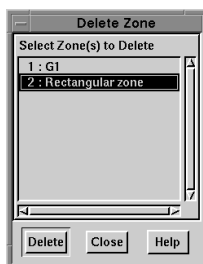

Figure 24-20. The Delete Zone dialog.
1. From the Data menu, choose Delete. From the Delete sub-menu, select Zone. The Delete Zone dialog appears as shown in Figure 24-20.
1. From the Data menu, choose Delete. From the Delete sub-menu, select Variable. The Delete Variable dialog appears; it is similar to the Delete Zone dialog shown in Figure 24-20.